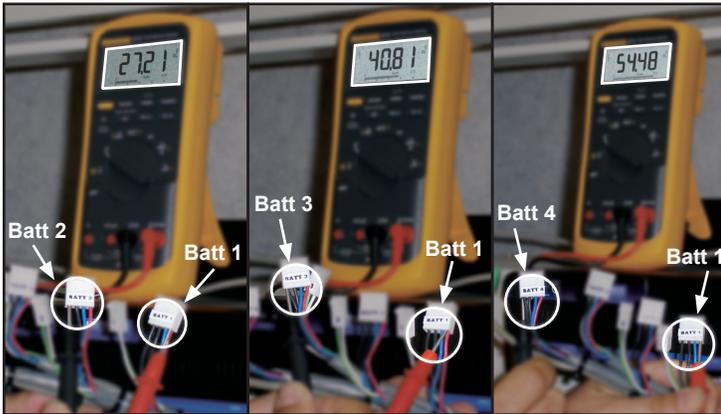

Figure 4
4. Move the negative voltmeter lead to one of the black wires on the Battery 2 connector. When properly connected the meter should read a nominal +24 Volts. (Figure 4)